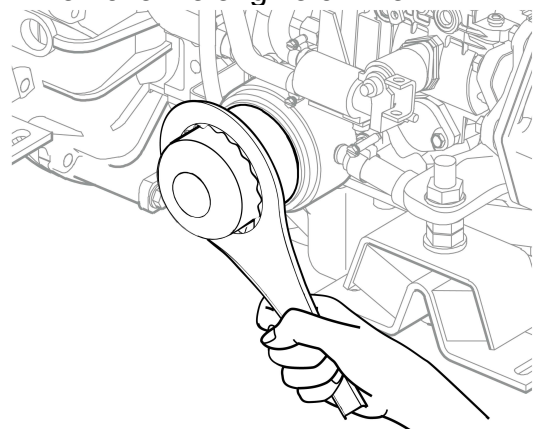

Figure 2
3. Turn the engine oil filter (Figure 2) counterclockwise with a wrench.